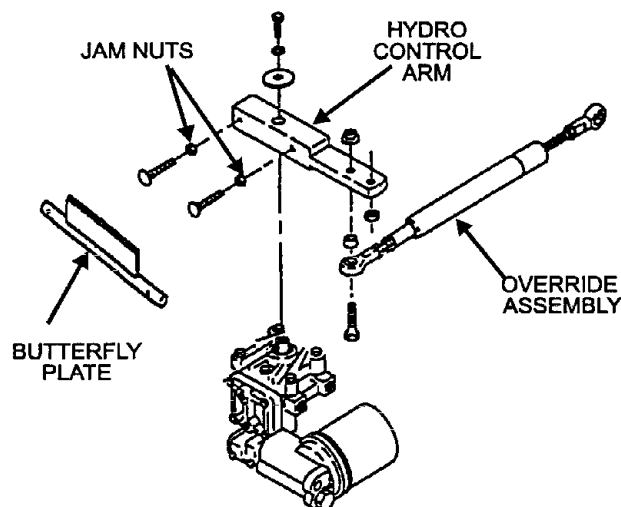

FIG. 9
- c) Adjust two 5/16 x 1-1/2" carriage bolts in the hydro control arm in or out until the head contacts the butterfly plate, and then tighten jam nuts (See Figure 9).